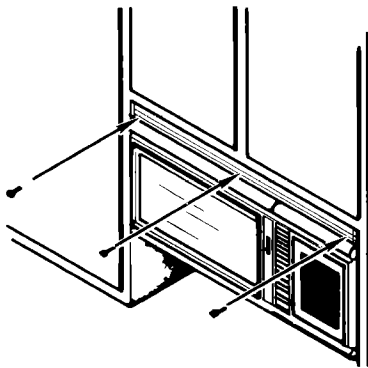

Figure 28
8. Replace front grill with three (3) screws. (See figure 28).